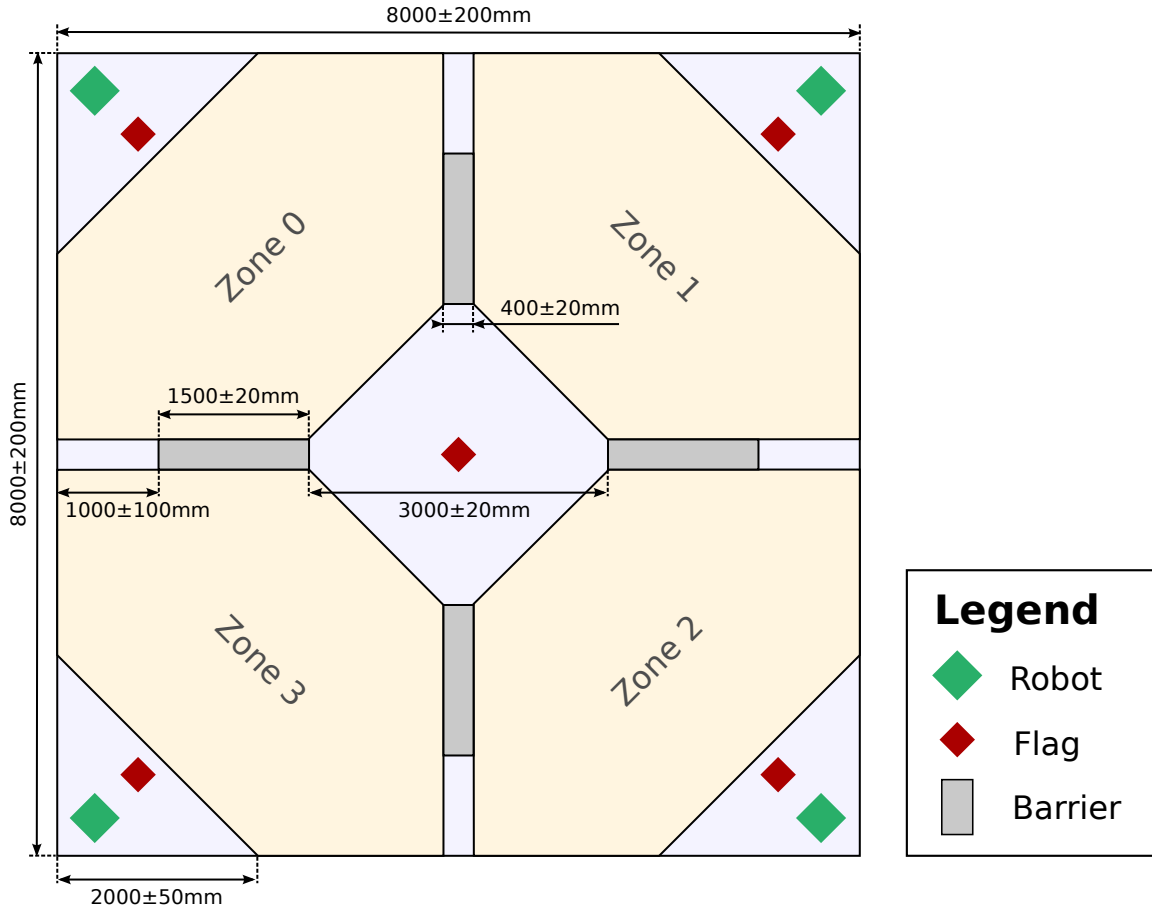

Figure 3: A bird's-eye view of the arena. All dimensions are in millimetres.
- 3.3.1 The match arena floor, overall, is an $8m \times 8m$ square, as shown in figure 3. The tolerance of these two dimensions is $\pm 0.2m$.
- 3.4.1 There are four zones in the arena, each in front of one of the corners. The arrangement and dimensions of these zones can be seen in figure 3.
- 3.4.2 Part of the boundary between adjacent zones will be formed by a barrier. The barriers will be $100 \pm 20mm$ high, $400 \pm 20mm$ wide and $1500 \pm 20mm$ long. The locations of the barriers can be seen in figure 3.